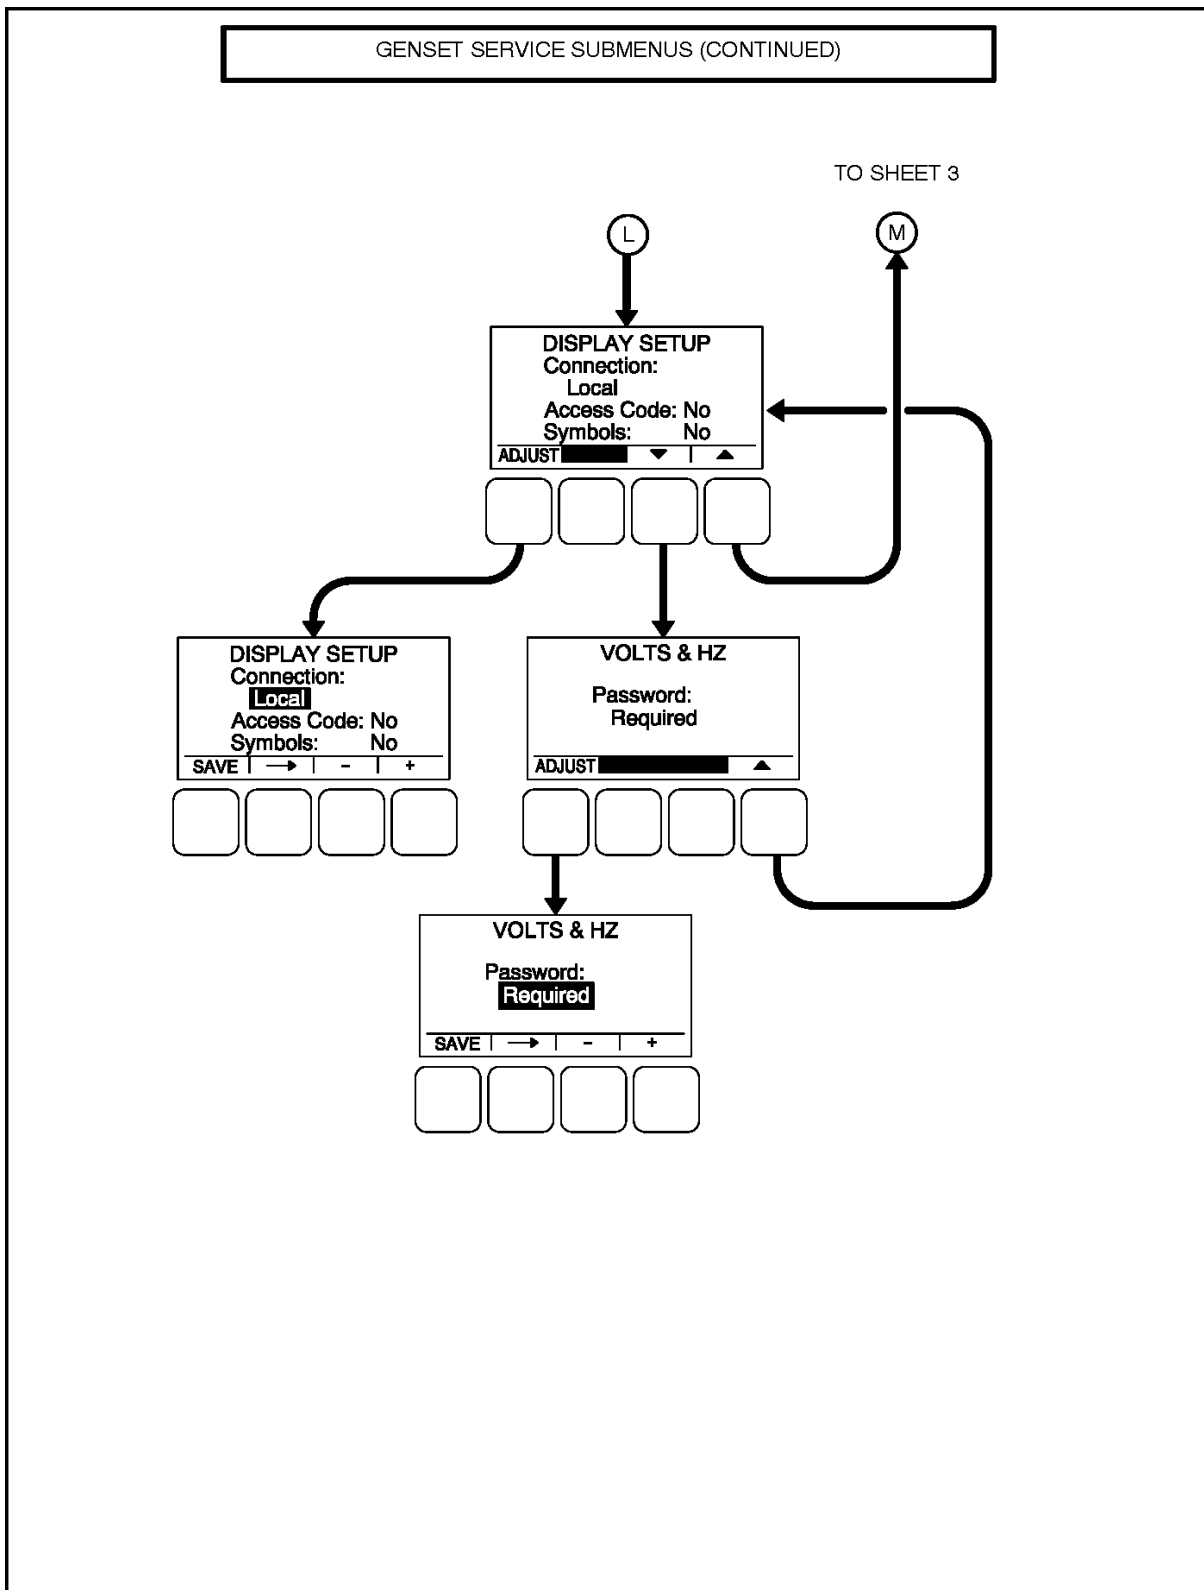

FIGURE 56. GENSET SERVICE - DISPLAY SETUP, AND VOLTS AND HERTZ SUBMENUS
- Display Setup (Figure 56 on page 101)
- Volts and Hz Password (Figure 56 on page 101)
The Display Setup menu (Figure 56 on page 101) is used to set the display for Local (Auto/Off/Manual Run switch functions on the operator panel are turned on) or Remote (Auto/Off/Manual Run switch functions on the operator panel are turned off).
The Volts and Hertz menu (Figure 56 on page 101) is used to select whether or not a password is required in order to change voltage and hertz settings outside of the Genset Service menus.